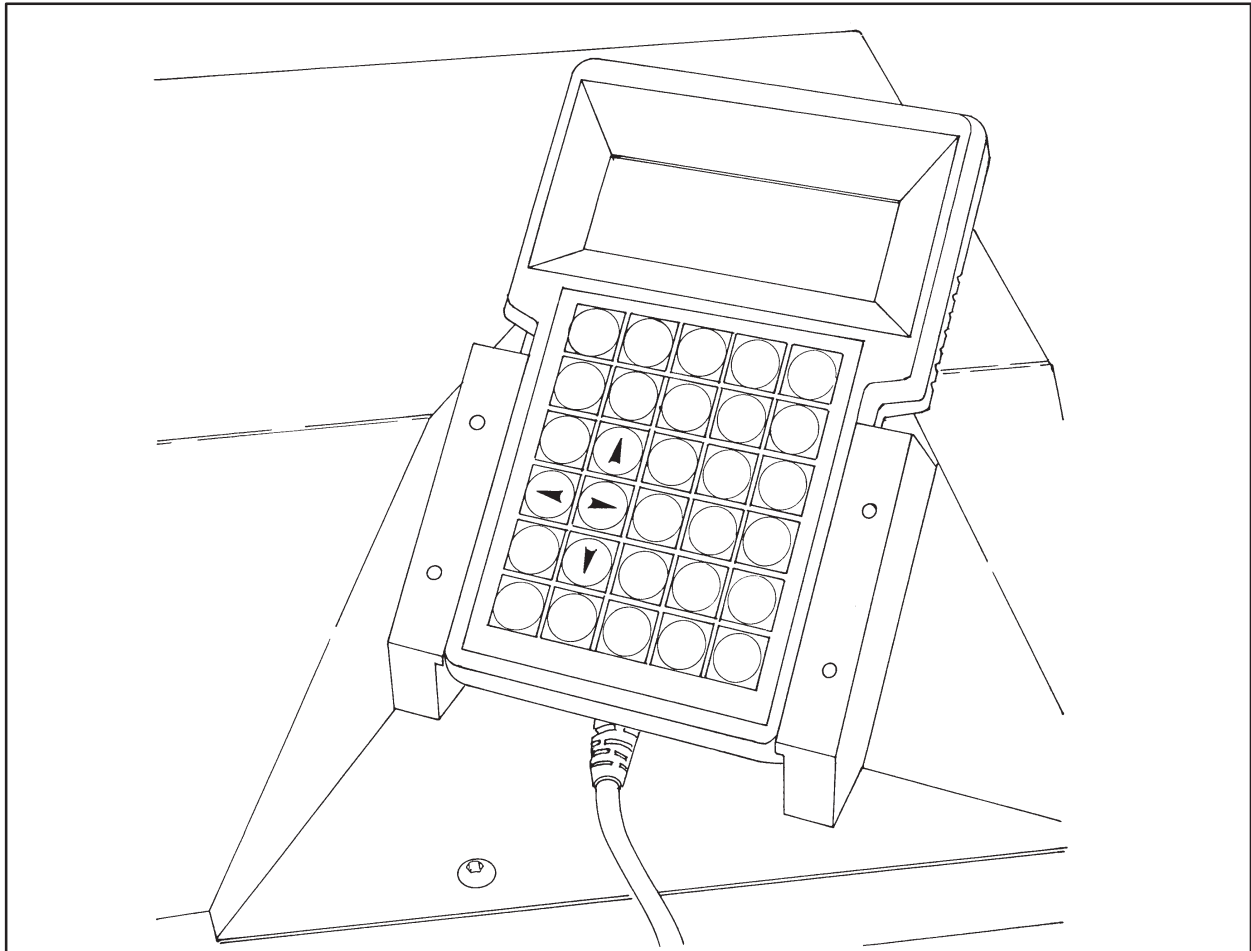

Fig. 4-1. Control Unit
4.1. Control Unit (Figure 4-1)